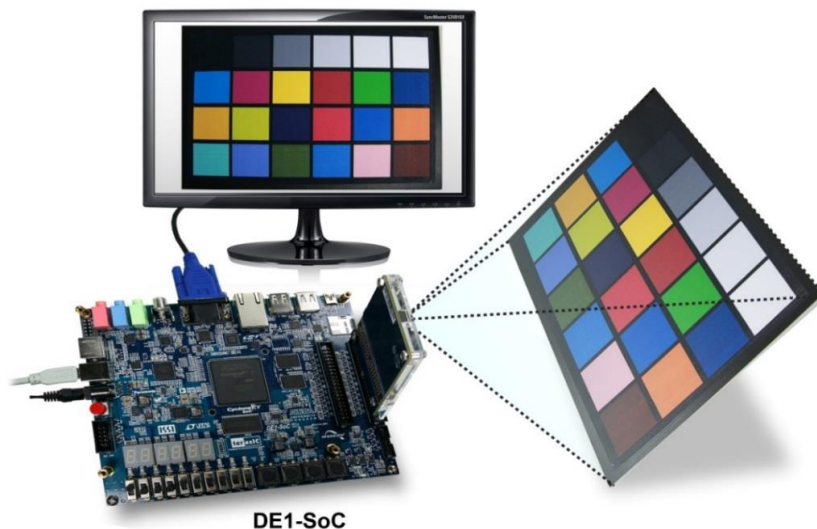

Figure 4-2 DE1-SoC demo hardware setting up
As shown in Figure 4-2
- Plug D8M onto DE1-SoC JP2(GPIO 1), connect VGA monitor to J9 see **Figure 4-2**.
- Plug D8M onto DE1-SoC JP2 (GPIO 1), connect VGA monitor to J9 see Figure 4-2.